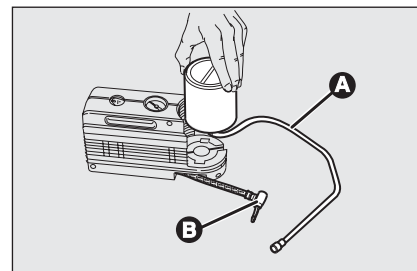

fig. 20
- ☐ disconnect connection **B**-**fig. 20**;